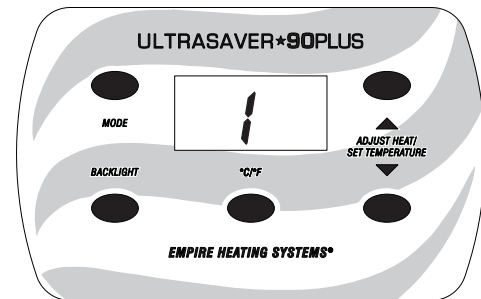

Figure 13
2. When a call for heat is received, the wall furnace display panel will illuminate and show the level. **See Figure 13.**